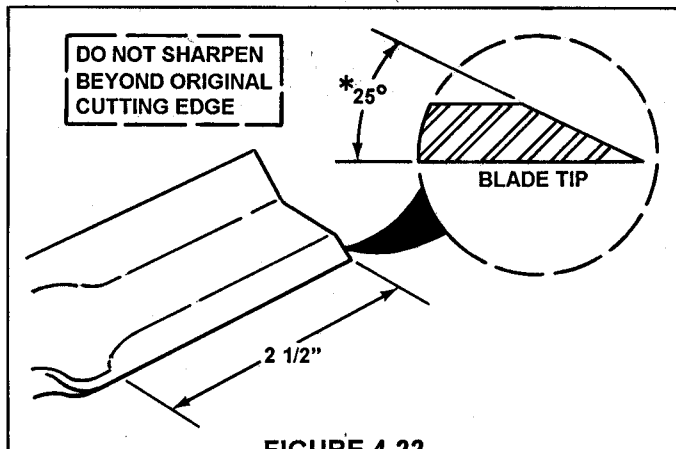

FIGURE 4.22
4. If blade is in good condition, sharpen at 25°. DO NOT sharpen beyond existing cutting edge. See Figure 4.22.